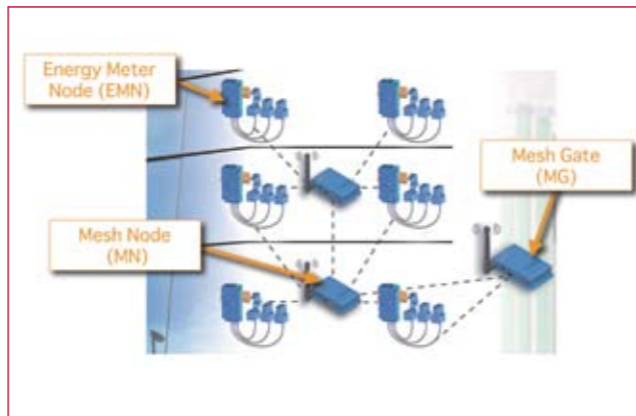

Figure 1: Wi-LEM (Wireless Local Energy Meter).
Wi-LEM (Wireless Local Energy Meter) is a real innovation in the world of electrical sub-metering and has been designed to respond to the emerging requirements of the energy efficiency and energy service market. It comprises of a constellation of several components as shown in Fig.1. The platform consists of several elements: Energy Meter Nodes (EMN), Mesh Gate (MG) and Mesh Nodes (MN).